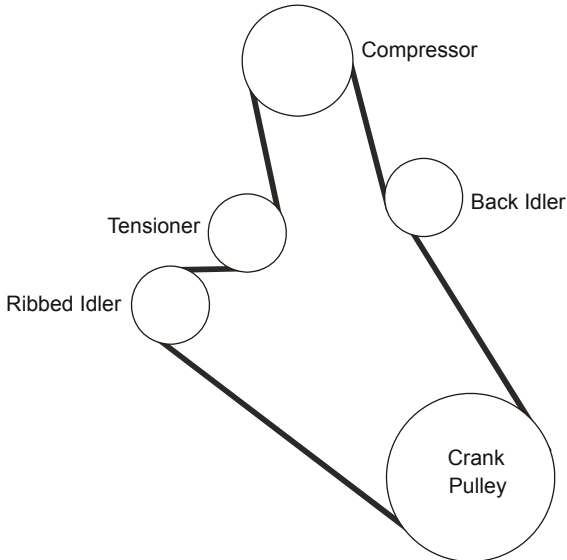

Figure 3.4
- Place the compressor in position on the mounting bracket (Figure 3.4). Make sure that the compressor wires do not become trapped between the engine and the compressor.
- Install the compressor drive belt (Figure 3.4). Make sure that it is aligned correctly and clears all components.